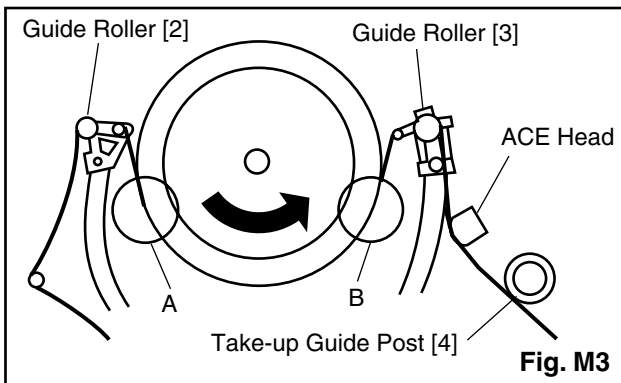

Fig. M3
1. Playback a blank cassette tape and check to see that the tape runs without creasing at Guide Rollers [2] and [3], and at points A and B on the lead surface. (Refer to Fig. M3 and M4.)
2. If creasing is apparent, align the height of the guide rollers by turning the top of Guide Rollers [2] and [3] with a Guide Roller Adj. Screwdriver. (Refer to Fig. M3 and M5.)
3. Check to see that the tape runs without creasing at Take-up Guide Post [4] or without snaking between Guide Roller [3] and ACE Head. (Fig. M3 and M5)
- Playback the Gray Scale on the Alignment Tape (VFMS0001H6). Set the Tracking Control Circuit to the preset position by pressing CH UP button and then "PLAY" button on the unit. Adjust the height of Guide Rollers [2] and [3] (Fig. M3, Page 2-3-3) watching the oscilloscope display so that the envelope becomes as flat as possible. To do this adjustment, turn the top of the Guide Roller with the Guide Roller Adj. Screwdriver.
- If the envelope is as shown in Fig. M7, adjust the height of Guide Roller [2] (Refer to Fig. M3) so that the waveform looks like the one shown in Fig. M9.
- If the envelope is as shown in Fig. M8, adjust the height of Guide Roller [3] (Refer to Fig. M3) so that the waveform looks like the one shown in Fig. M9.
- When Guide Rollers [2] and [3] (Refer to Fig. M3) are aligned properly, there is no envelope drop either at the beginning or end of track as shown in Fig. M9.
Note: Upon completion of the adjustment of Guide Rollers [2] and [3] (Refer to Fig. M3), check the X Value by pushing the CH UP or DOWN buttons alternately, to check the symmetry of the envelope. Check the number of pushes to ensure preset position. The number of pushes CH UP button to achieve 1/2 level of envelope should match the number of pushes CH DOWN button from center. If required, redo the "X Value Alignment."